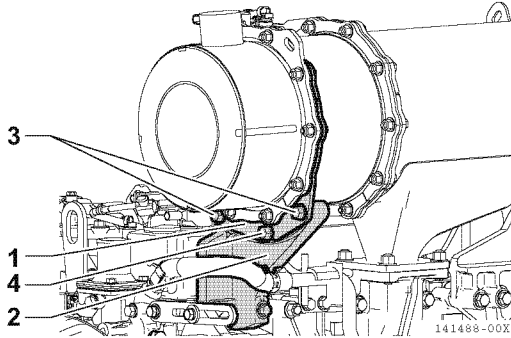
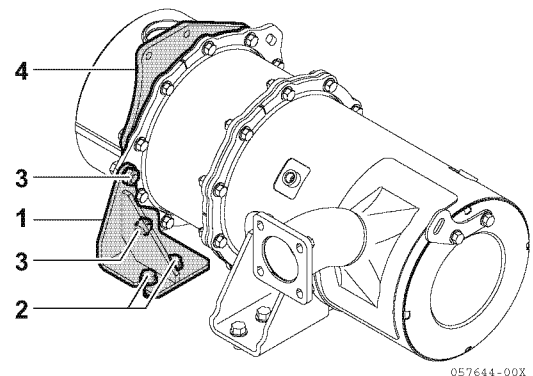

Figure 13-15
Figure 13-17
- Remove the M10 flange bolts (2 pcs.) (3, **Figure 13-15**) and the M10 flange nut (1 pc.) (4, **Figure 13-15**) that fix the PDF stay (2, **Figure 13-15**) and stiffener (1, **Figure 13-15**) mounted on the bottom of the SF case. Depending on the model, the configuration and fixing method of the engine-side stay may differ.
- Temporarily fasten the DPF stay (1 **Figure 13-17**) on the silencer (or outlet flange) side to the flywheel housing using M10 flange bolts (2 pcs.) (2 **Figure 13-17**).
- Before fully tightening, slightly loosen the M10 flange bolts (2 pcs.) (3 **Figure 13-15**) that affix the stiffener (4 **Figure 13-15**) and the DPF stay, and after fully tightening the DPF stay and the flywheel housing bolts, (2 **Figure 13-17**), fully tighten the stiffener bolts (3 **Figure 13-17**).
- Reattach the sensor bracket that had been moved to the engine side to the outlet flange side stiffener (4 **Figure 13-17**). (M8 flange bolts (2 pcs.))